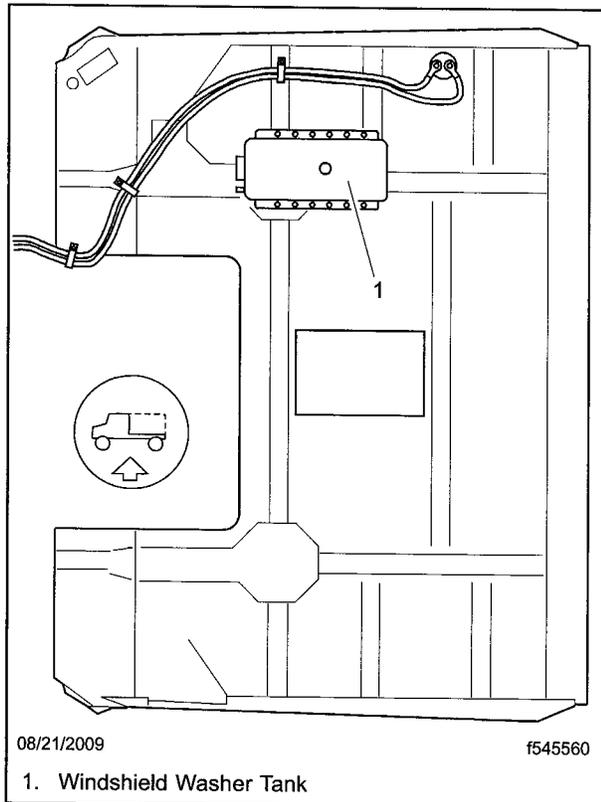

Fig. 7, Cable Routing, Bottom View
18. Install the remaining clamps on the edge of the engine tunnel making sure there is clearance between the engine and the cables. Tighten the p-clamp nuts 12 lbf-ft (16 N·m). See **Fig. 7**.